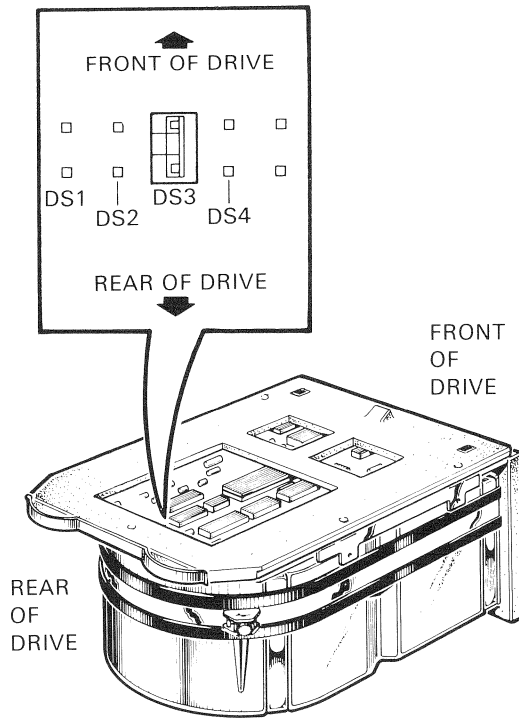

Figure 5-4 RD52 Disk Drive and Jumpers
5.3.1.2 RD52 – The RD52 read/write printed circuit board has five pairs of pins (Figure 5-4). To configure an RD52 drive in a BA23-A enclosure as DU0 (installed in port 0), place the jumper clip on DS3. To configure an RD52 drive in a BA23-A enclosure as DU1 (installed in port 1), place the jumper clip on DS4.